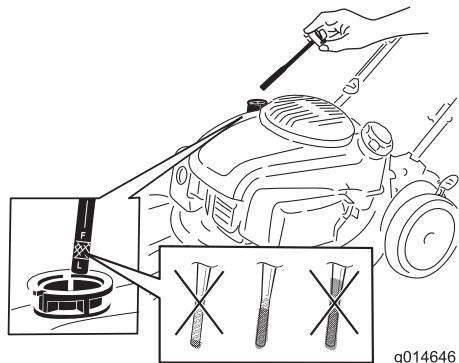

Figure 5
1. Remove the dipstick (Figure 5).
2. Slowly pour oil into the oil-fill tube until the oil level reaches the Full line on the dipstick (Figure 5). **Do not overfill.** (Max. fill: 0.65 L (22 oz), type: 10W-30 or SAE 30 detergent oil with an API service classification of SJ or higher.)
Note: Each time you check the oil level, remove the dipstick and wipe it clean, insert it into the oil filler neck (but **do not** screw it in), then remove it again and check the level (Figure 5).